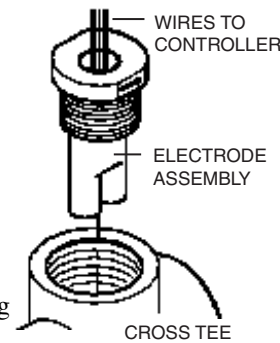

Fig. 11 Electrode
- 4) Unscrew electrode, and remove electrode by pulling straight out. (See Fig.11, Electrode)